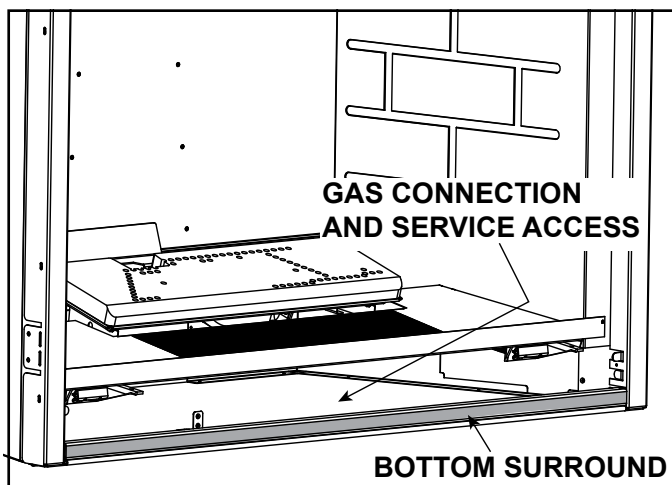
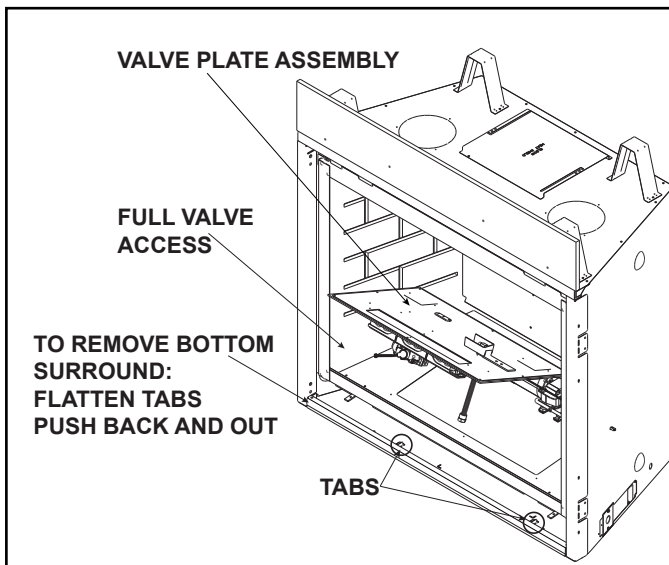

Figure 9.1 Bottom Surround Removal
Figure 9.4 Gas Valve Access
- The bottom surround for this appliance may be removed to gain access to the control cavity for ease of access during the gas connection process. See Figure 9.1 and Figure 9.4.
- Remove decorative barrier front, glass, logs, base pan assembly, burner assembly and valve plate assembly. See Figure 9.4.